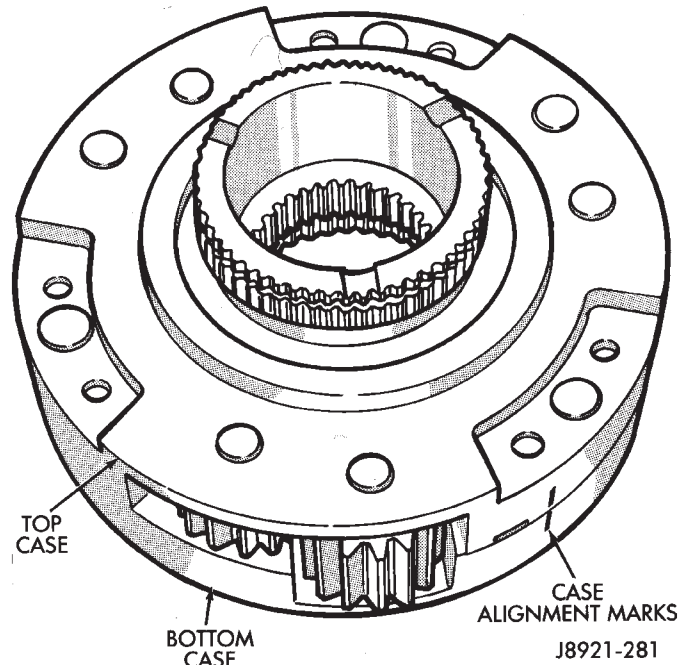

Fig. 62 Differential Case Assembly
- (5) Align and position differential top case on bottom case (Fig. 62). Align using scribe marks made at disassembly.
- (6) While holding differential case halves together, invert the differential and start the differential case bolts.
- (7) Tighten differential case bolts to specified torque.